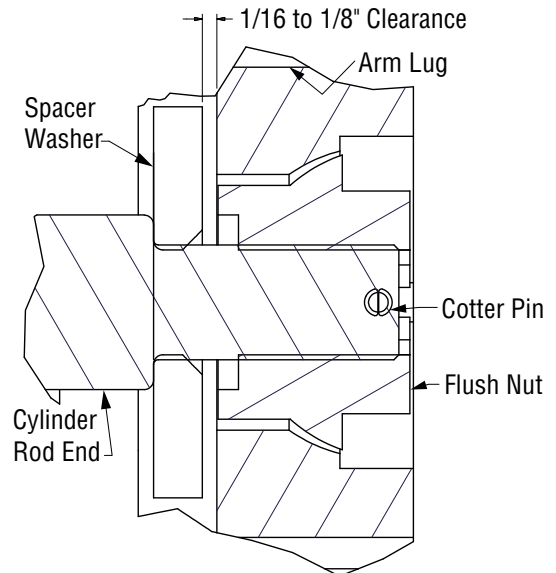

Figure 5-4, Arm Lug
3. Apply a thin coat of bearing grease to the spherical portion of the nut and concave section of the arm lug. Screw on the flush nut until it stops. Back off the flush nut while lining up the cotter pin hole in the rod with the slot in the flush nut. Clearance between the spacer washer and the arm lug should be 1/16 to 1/8 of an inch or less. **Be sure there is some clearance between spacer washer and arm lug.** (Figure 5-4)